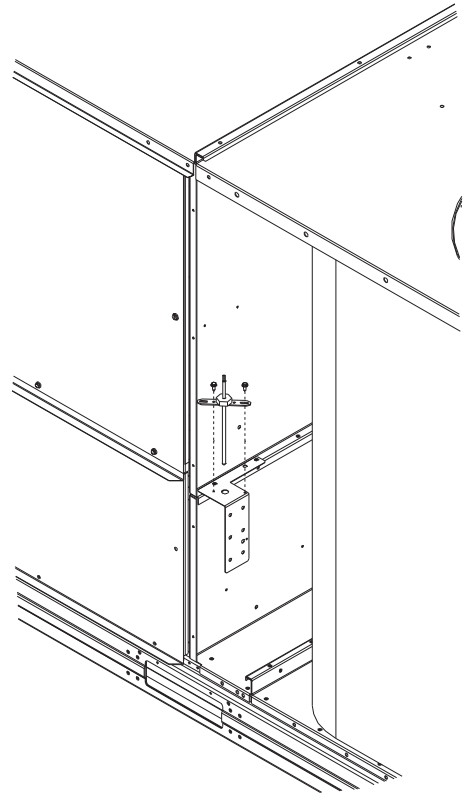

Fig. 24 — OAT Installation for Chassis 6 and 7 Units
5. For chassis 6-7 size units, locate the factory installed OAT Bracket in the coil area, two No. 10 screws and install OAT sensor. (See Fig. 24.)